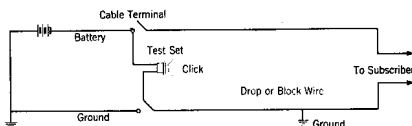

FIGURE 2. Ground Side Grounded
3.03 When a battery click is heard, connect the clip to the binding post carrying battery and remove the other clip from the external ground. Touch this clip to the conductors of the drop wire. A battery click will be heard in the receiver when the grounded wire is touched. See Figures 2 and 3.